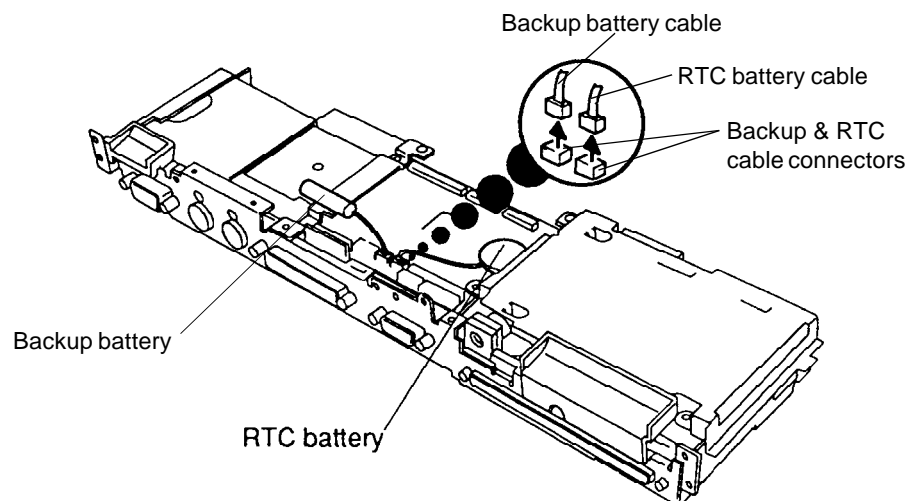

Figure 4-25 Removing the Backup Battery and RTC Battery
To remove the T4500/T4600 Family computer's backup battery and RTC battery, follow the steps below and refer to Figure 4-25.
3. Disconnect the **backup battery cable** and **RTC battery cable** from their connectors on the system PCB. Before removing the batteries, note the location of each battery and how their cables are routed. Also note the location of the tape securing the backup battery to the protective metal plate (Figure 4-25).